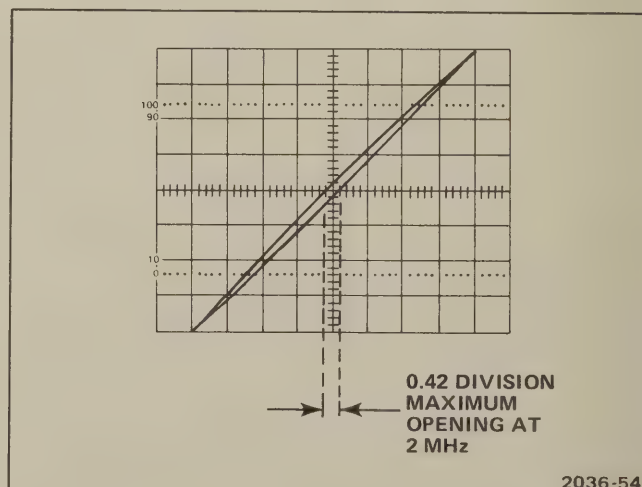

Fig. 6-12. X-Y phase difference.
- b. Connect test equipment as shown in Figure 6-12.
- f. **ADJUST**—L1103 for minimum horizontal opening at the center horizontal graticule line (see Figure 6-12).
- h. **CHECK**—Opening at center of display is 0.42 division (horizontally) or less (see Figure 6-12).